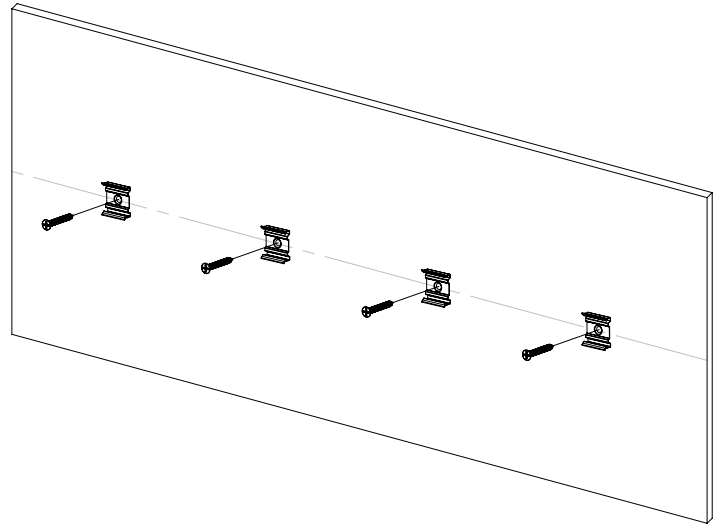

Figure 4
3. Align each clip with the marked positions and secure the clips to the surface using the provided screws. (For drywall installations, install the provided drywall anchors into the marked positions before using the provided screws to secure the mount clips.) (Figure 4).